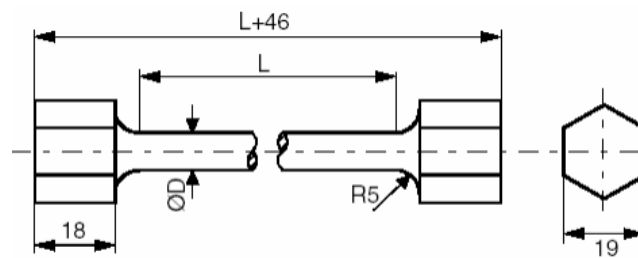

Fig.3 Torsion test specimen dimensions
7. By joining the two broken halves of the specimen together, measure the final length and diameter of specimen as shown in fig.3. (All dimensions are in mm).